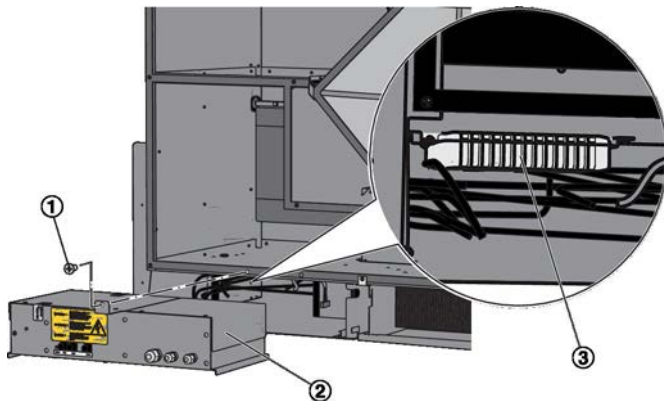

Fig. 32: Replacing the control module
2. ▶ On the control equipment box (Fig. 32/2) loosen the Phillips screw (Fig. 32/1), then pull out the box.
3. ▶ Pull out the control module (Fig. 32/3).